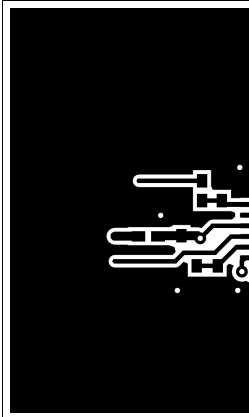

图 42. Top Layer Traces and Copper
- Increasing the PCB copper connecting to VDDA, VDDDB, VSSA and VSSB pins is recommended, with priority on maximizing the connection to VSSA and VSSB (see 图 42 and 图 43). However, high voltage PCB considerations mentioned above must be maintained.
图 42 and 图 43 shows top and bottom layer traces and copper.